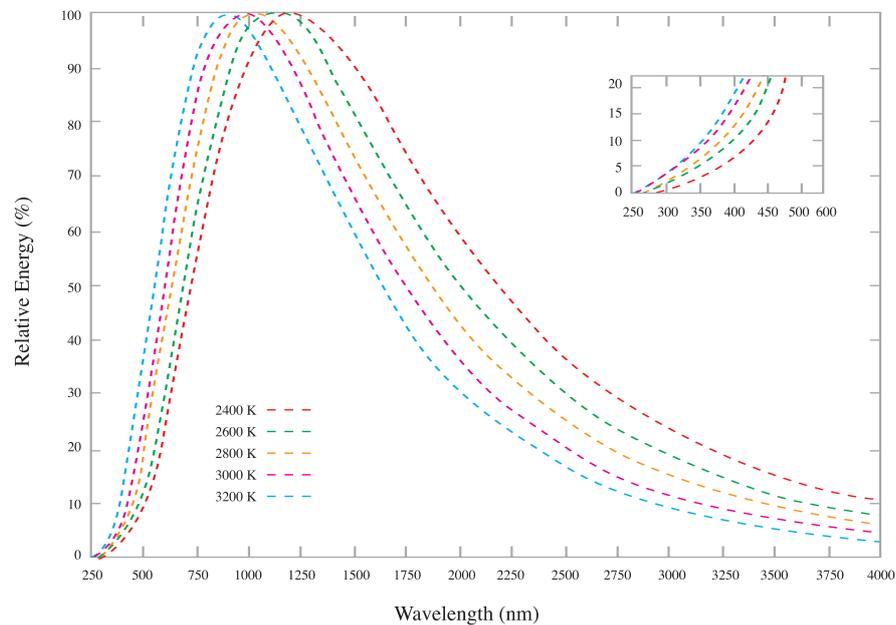

Figure 1. Spectral distribution of light emitted by blackbodies at various color temperatures indicated in Kelvin (K)
The ASB-W-020 is a complete light source assembly with a tungsten-halogen lamp that emits in the 300 to 2500 nanometer (nm) wavelength region. It has been designed to transfer the maximum possible illumination to a variety of fibers. The tungsten-halogen lamp of the ASB-W-020 is a near blackbody source of light with a built-in fused silica lens that focuses the light to the fiber. Figure 1 shows blackbody spectral distributions at various color temperatures in Kelvin (K). The ASB-W-020 spectral distributions resemble those of Figure 1 out to about 2500nm, beyond which the transmission of the fused silica lens limits the output.
**Spectral Distribution :** Near blackbody (see Figure 1)